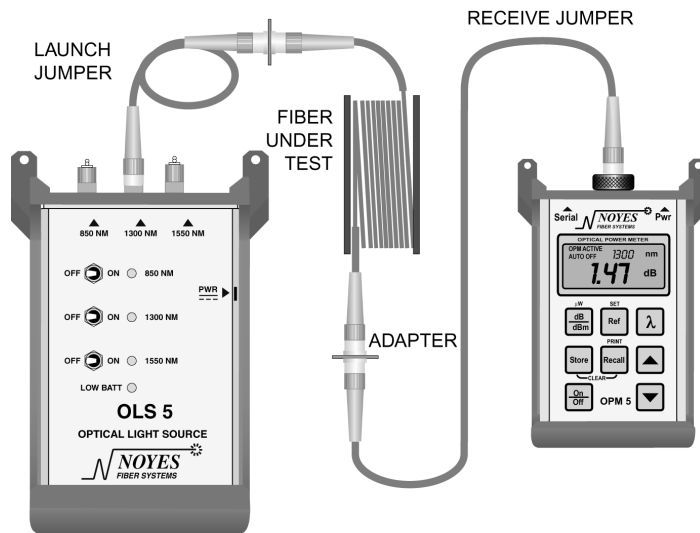

Figure 4 - Fiber Loss Diagram
1. Without removing a launch jumper from the OLS 5-5 Optical Light Source, connect the OLS 5-5 and OPM 5-2C Optical Power Meter to the fiber (link) under test (see Figure 4).